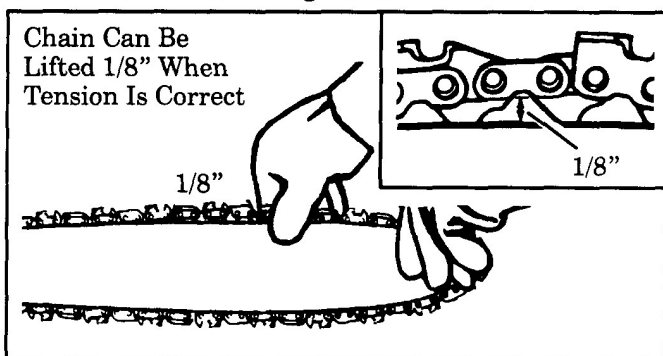

Figure 11
2. Check the tension by lifting the chain from the guide bar at the center of the bar. Figure 11 .